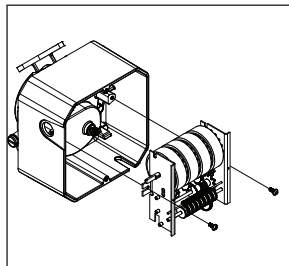

Figure 2
3. Remove two screws to release the counter assembly. (Figure 2)